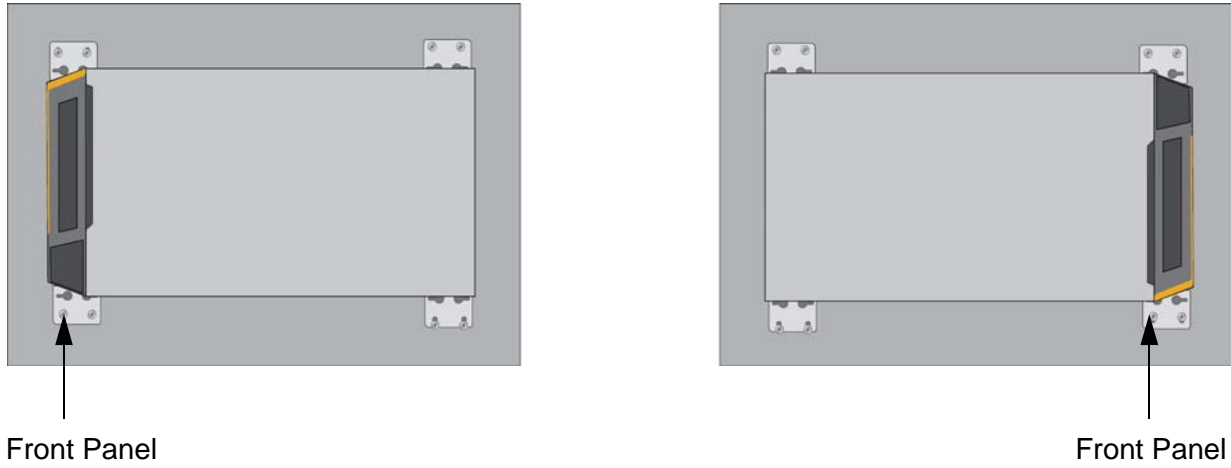

Figure 32. Positions of the Switch on the Wall
You can install the switch on a wall with the front panel on the left or right, as shown in Figure 32. Do not install it with the front panel on the top or bottom.
- Position the switch so that the front panel is either on the left or the right. Refer to Figure 32 on page 64. You may not install the switch with the front panel facing up or down.